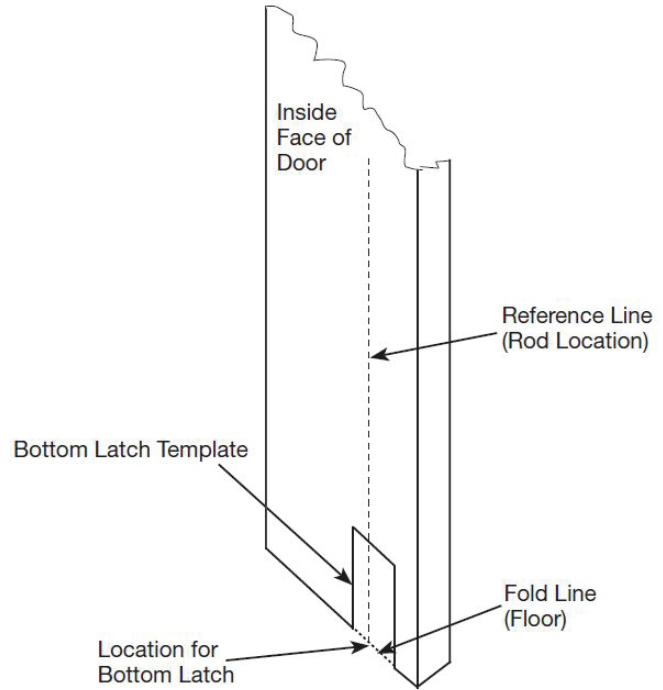

Figure 9
1. Locate the bottom latch template. See Figures 9 & 10, and the template for correct positioning.
1. Locate the bottom strike template. See Figures 9 & 10, and the template for correct positioning.